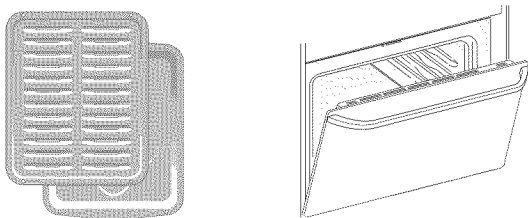

Figure 23: Broil pan and insert (L) Broil Stop position (R)
The broil pan and broil pan insert used together allow dripping grease to drain and be kept away from the high heat of the oven broiler (Figure 23). Do not use the broil pan without the insert. Do not cover the broil pan insert with foil. The exposed grease could catch fire.
2. Arrange the interior oven rack and place the broiler pan on the rack. Be sure to center the broiler pan directly under the broiler element. Make sure the oven door is open to the broil stop position when broiling (Figure 23).